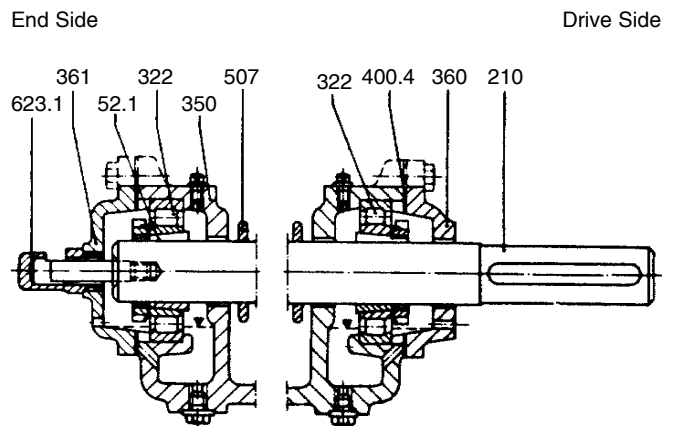

Fig. 45 Standard bearing arrangement.
The shaft (210) is supported on two cylindrical roller bearings (322) attached to the shaft by means of the adaptor sleeves (52.1); the shaft is free to slide axially. The bearings do not have to absorb any axial forces because the axial thrust is compensated by the balancing device (601 and 602). (see Figs. 45 and 46)